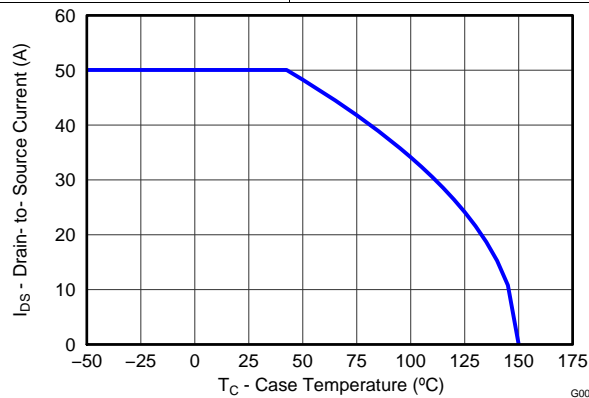

Figure 12. Maximum Drain Current vs Temperature
• Updated <a href="#">Figure 12</a> to show a 50-A package current limit .....	6